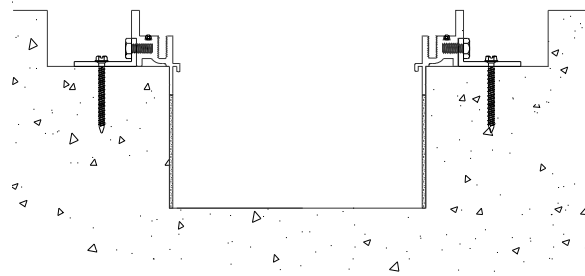

Figure 6
STEP 8. Place grout (by others) below the frame flange, see Figure 6